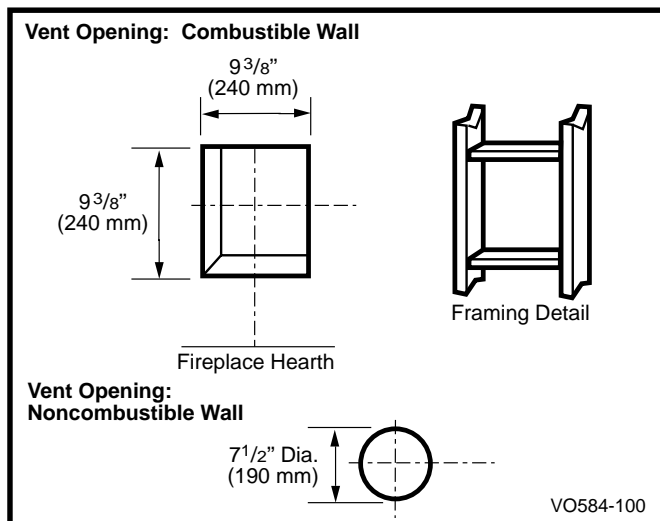

Fig. 24 Locate vent opening on wall.
Locate vent opening on the wall. It may be necessary to first position the fireplace and measure to obtain hole location. Depending on whether the wall is combustible or noncombustible, cut opening to size. (For combustible walls, frame in opening first (Fig. 24).
1. Establish vent hole through the wall (Fig. 24, page 16).